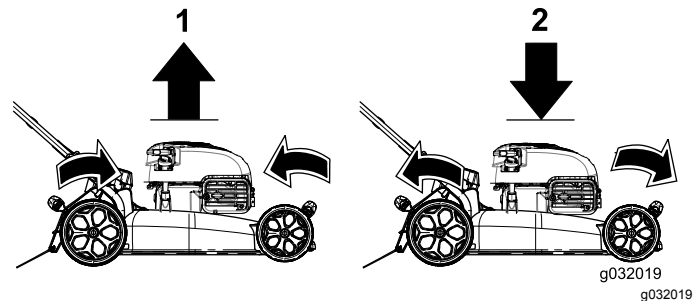

Figure 14
**Note:** To raise or lower the machine, move the cutting-height levers as shown in Figure 14.